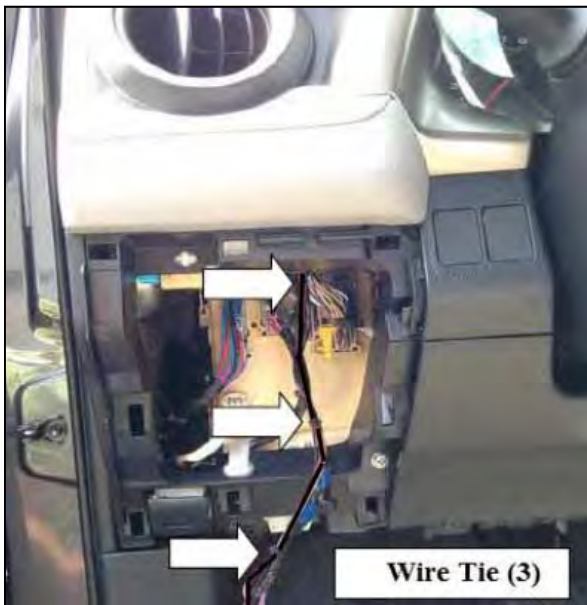

Figure 17
17. Bundle up any excess wire. Secure the mirror main power harness to the remote mirror switch OE harness as shown with (3) wire ties. See figure 17.